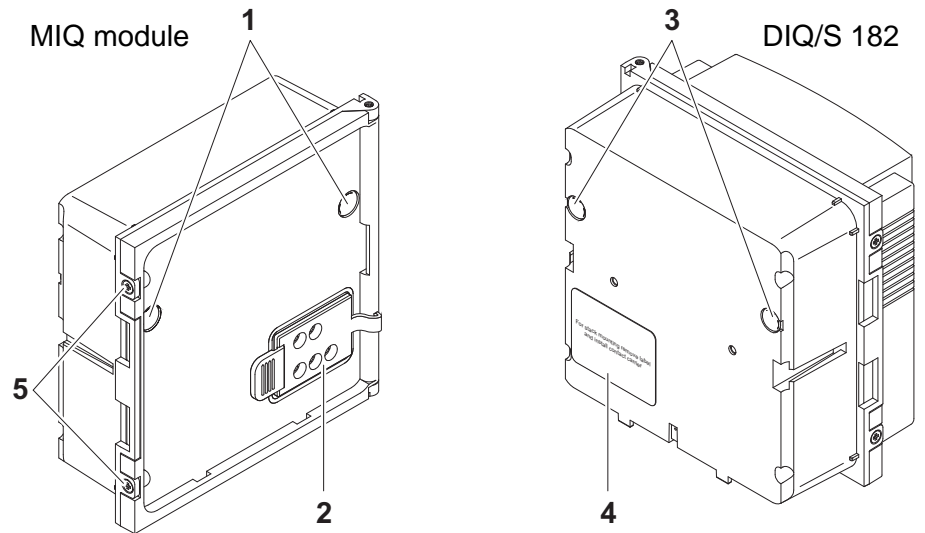

Fig. 3-6 Preparing the MIQ modules for stack mounting (variant 2)
1	Remove the covers from the drilled mounting holes (pos. 1 and 3 in Fig. 3-6).